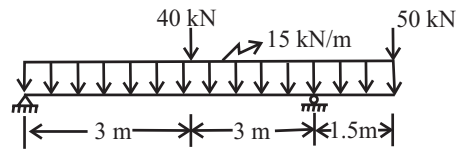

Fig 9
Q.9. Draw the shear force and bending moment diagram for the beam shown in fig 9. (May-05)